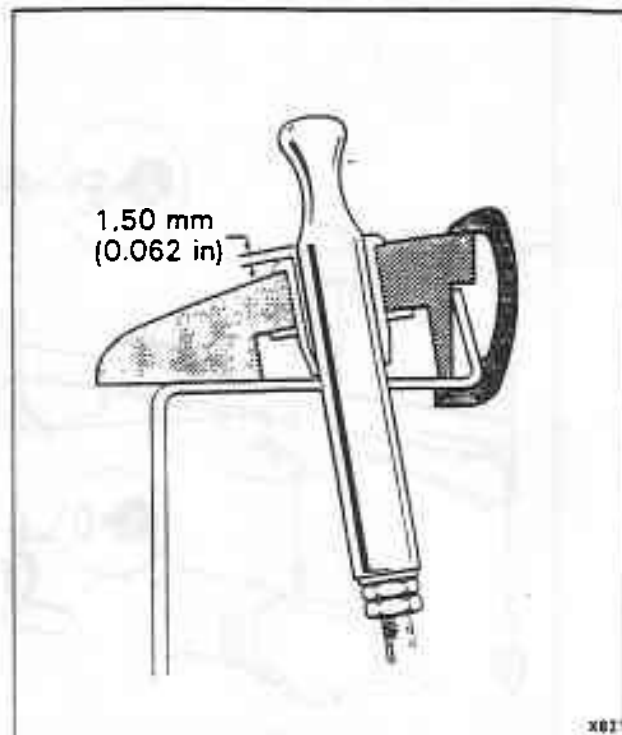

Fig. S4-20 Setting the sill control button
5. Press the sill control rod (item 11) into the remaining hole in the relay lever.
7. Screw on the sill button. Check that there is approximately 1,5 mm (0.062 in) of the button showing below the neck when the button is in the locked position (see fig. S4-20).